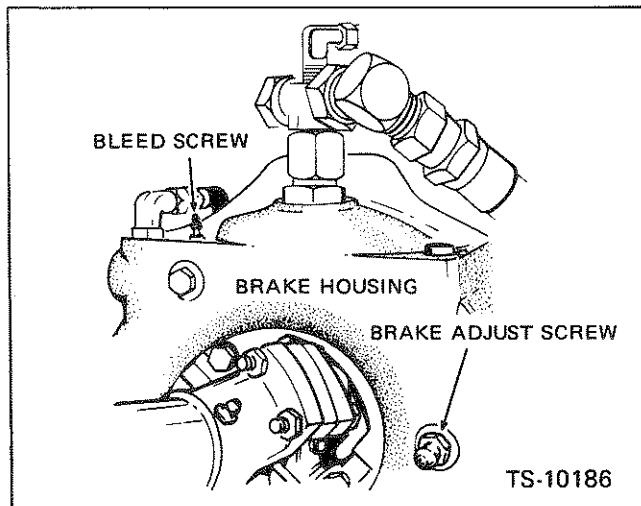

Fig. 13-3 Bleed and Adjust the Brake
2. With the aid of a helper, open the bleed screw on the brake housing in Fig. 13-3 and depress the brake pedal to expel any air and fluid from the lines.
To insure correct and adequate braking pressure the brake should be adjusted periodically or whenever necessary. To adjust the brake loosen the locknut on the adjust screw, Fig. 13-3, tighten the adjust screw clockwise until it is secure. Then loosen the adjust screw counter clockwise one complete turn and secure with the locknut.